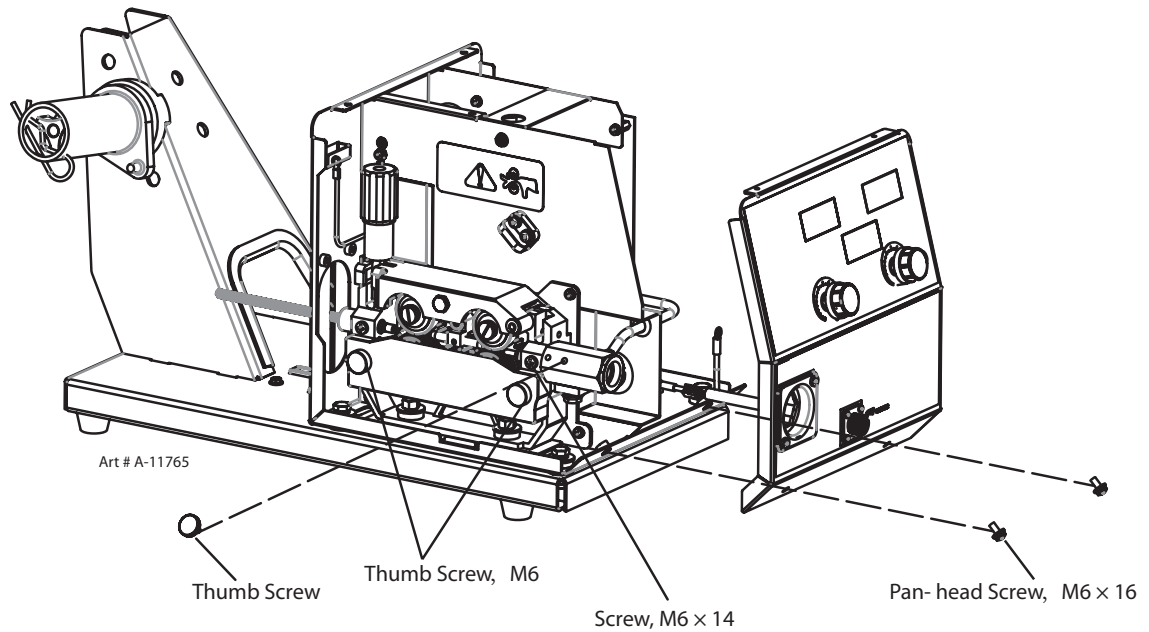

Figure 3-15 Removing Front Panel
7. Loosen M6 × 14 screw securing Tweco No. 4 MIG Torch Adaptor to wirefeed plate and remove the adaptor. Remove the Thumb Screw as shown in Figure 3-15. Keep the two screws for future use.
6. Lower the Pressure Roll Arm and swing the Pressure Adjusting Knob back into place. Replace the Finger Guard and tighten the two M6 Thumb Screws. Please refer to Figure 3-15.
7. Replace the Front Panel and wiring as outlined in Figures 3-15 and 3-14.